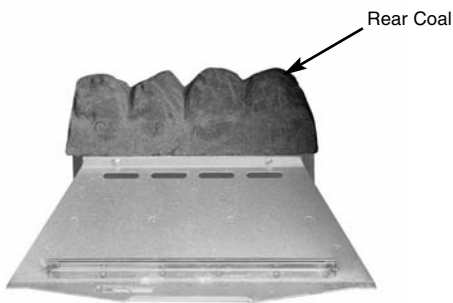

Fig. 41
1. Place the rear coal on the rear coal retainer ledge in a central position (Fig. 41).